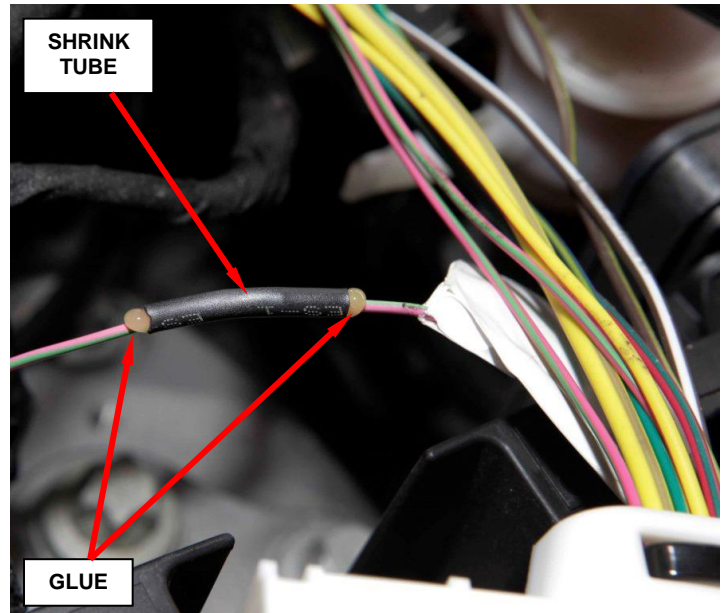

Figure 14 - Shrink Tube
- e. Slide the shrink tube evenly over the splice and apply heat to the shrink tube until glue comes out of both ends of the shrink tube (Figure 14).